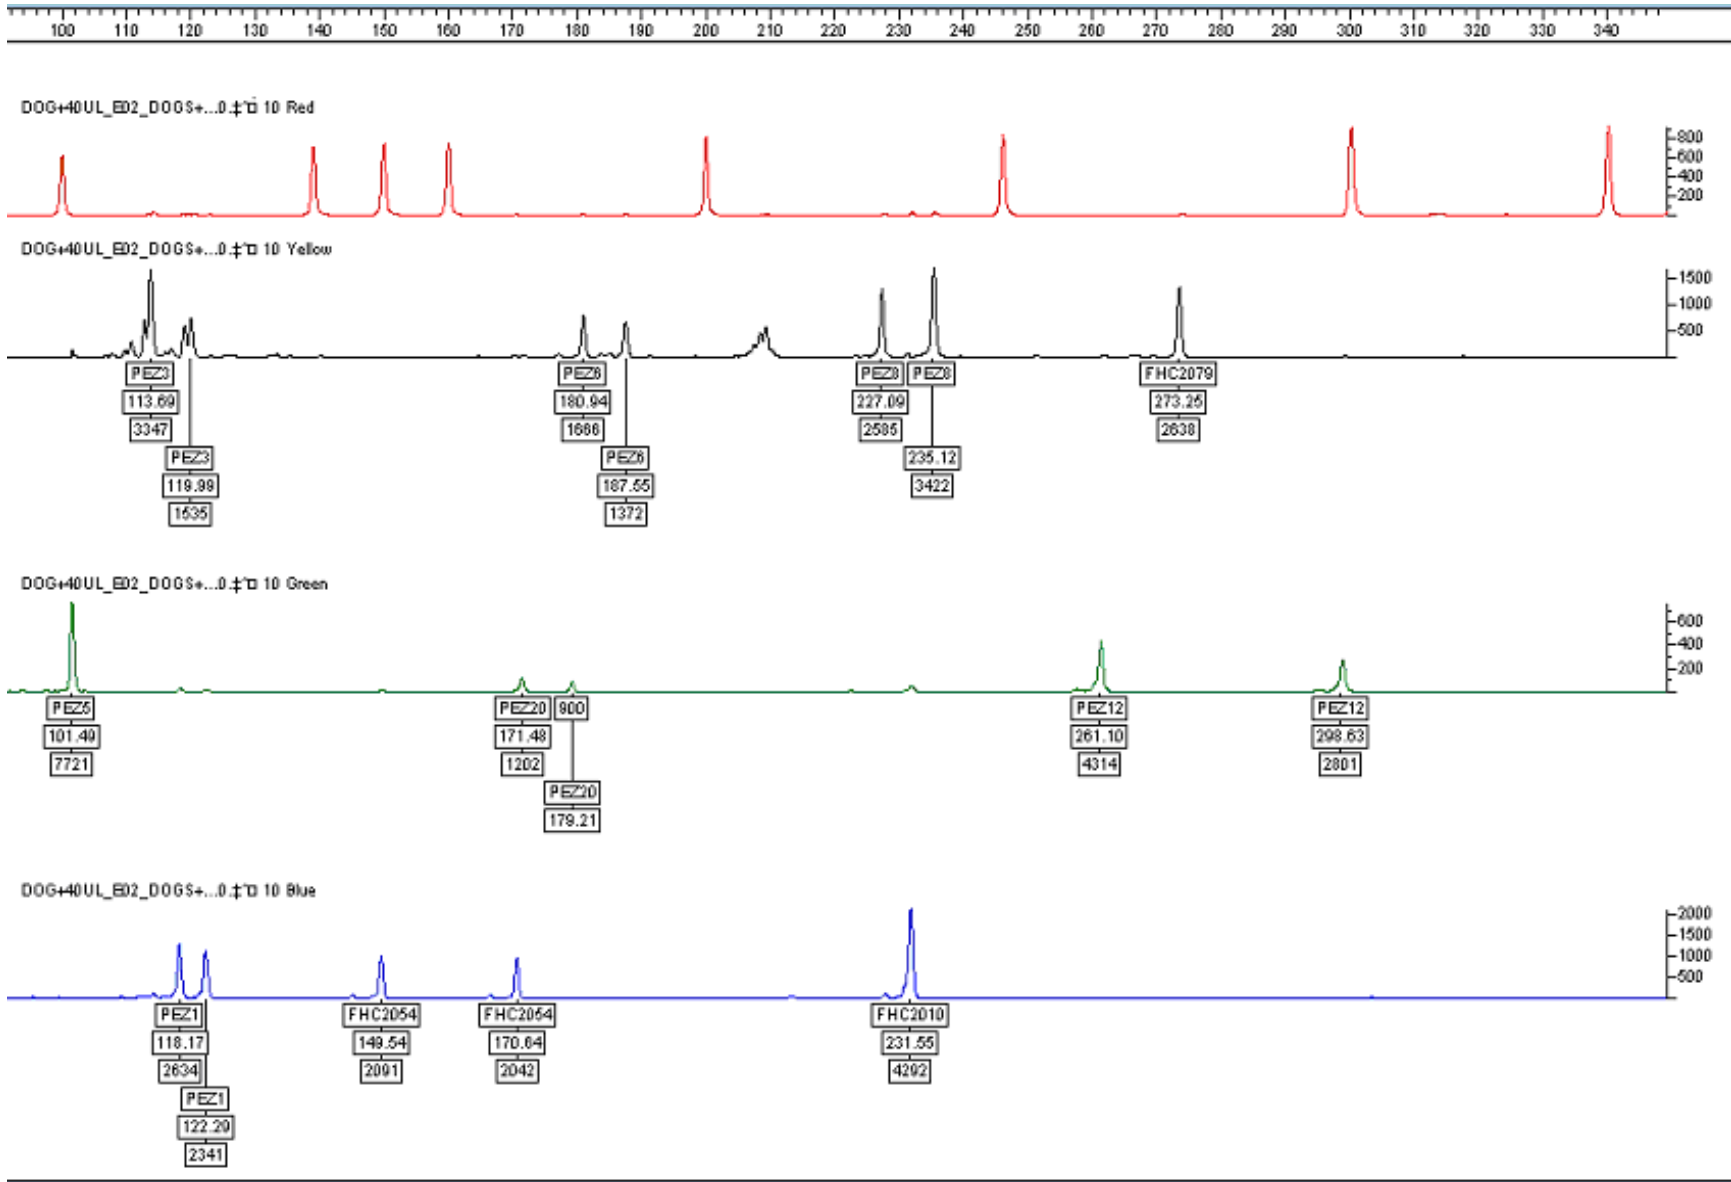

Figure 4 Genotyper™ software analysis of PCR amplification products using bovine control DNA separated on an Applied Biosystems® 3100 Genetic Analyzer
Amplification of the 11 bovine-specific loci using the bovine control DNA as the sample should provide results similar to those illustrated in Figures 4, 5, and 6. These figures show Genotyper™ software plots of GeneScan™ software results when bovine control DNA is separated on an
- Applied Biosystems® 3100 Genetic Analyzer (Figure 4 on page 29)